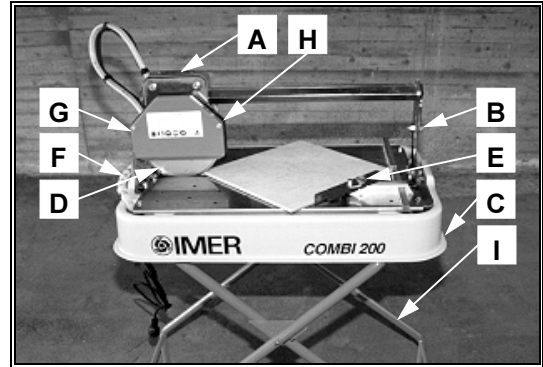
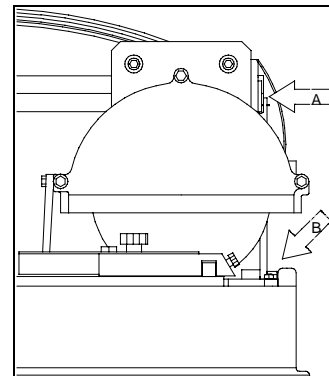
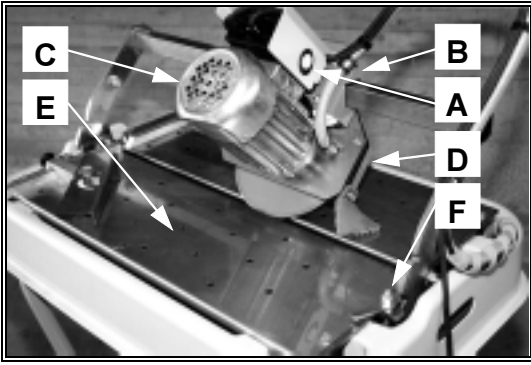

Fig.3.1
Fig.3.2
Fig.3.3
◆ When moving the machine on the site, always take care to secure the head with the lever (Fig. 3.1-G) and lift the machine with the handles on the tank (Fig. 2.2/A-A).
The machine may be supplied on an optional support stand (code 118.76.00) as shown below (Fig.3.1/I).
The motor is driven by pressing the push-button on the handle (Fig.3.3/A).
The machine consists of a mobile cutting part (Fig.3.1-A), a fixed machine support frame (Fig.3.1-B), a disk cooling tank (Fig.3.1-C) and an adjustment unit (Fig.3.1-E).
The machine is fitted with protection devices to guarantee maximum functioning safety (Fig.3.1-D).
1. The piece to be machined is placed against the fence (Fig. 3.3 -E) of the work surface with the required angle using the protractor (Fig.3.1-E);
2. Select the cutting angle, vertical (Fig.3.1) or tilted at 45° (Fig.3.3); to move the operating head to the fence, simply release the securing knob (Fig.3.1-F) (Fig.3.2-A) for the operating head angle setting, then secure the clamping knob again;
3. Turn the clamping knob for the operating head angle setting (Fig.3.1-G);
4. Start up the machine using the maintained push-button near the handle (Fig.3.3-A).
- ◆ If the 45° and 90° cuts are incorrect, adjust the screws on the two arms (Fig. 3.3-F).
1. A sliding unit guided by wheels on bearings (Fig.3.3-B and Fig.3.1-A);
2. An electric motor (Fig.3.3-C);
3. A cutting unit consisting of a cutting disk (Fig.3.1-D);
4. A maintained push-button (Fig.3.3-A);
5. A cutting disk guard (Fig.3.1-H);
6. A handle (Fig.3.3-D);
7. An operating head clamping knob (Fig.3.1-F);
8. A safety knob (Fig.3.1-G);